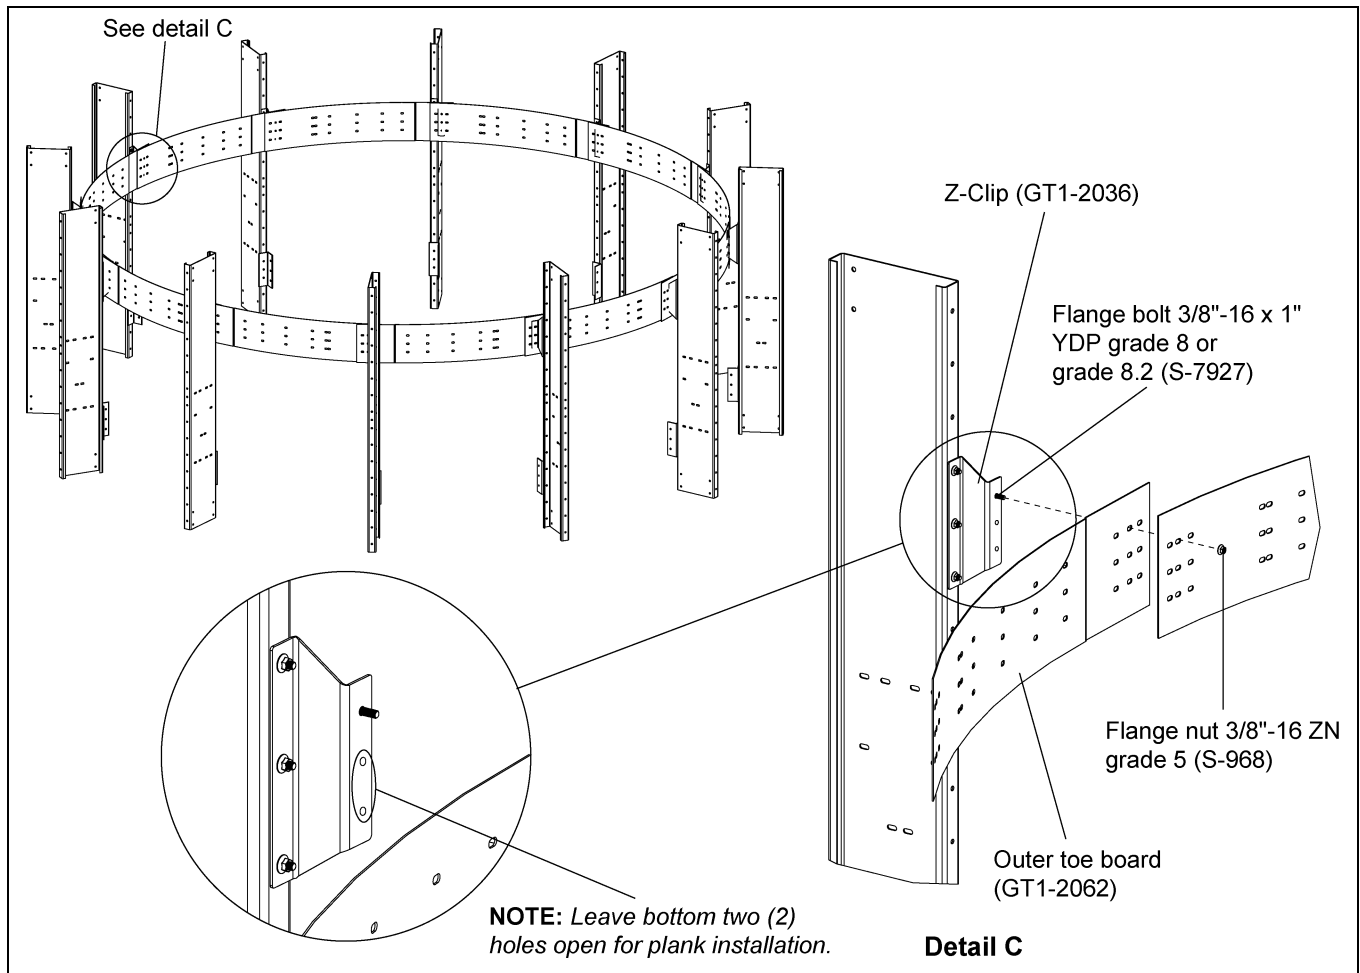

Figure 5D
1. Install the outer toe board (GT1-2062) to the Z-clips (GT1-2036). All toe boards should be installed between the Z-clips using 3/8"-16 x 1" YDP grade 8 or grade 8.2 bolts (S-7927) and 3/8"-16 ZN grade 5 nuts (S-968). (See Figure 5D.)